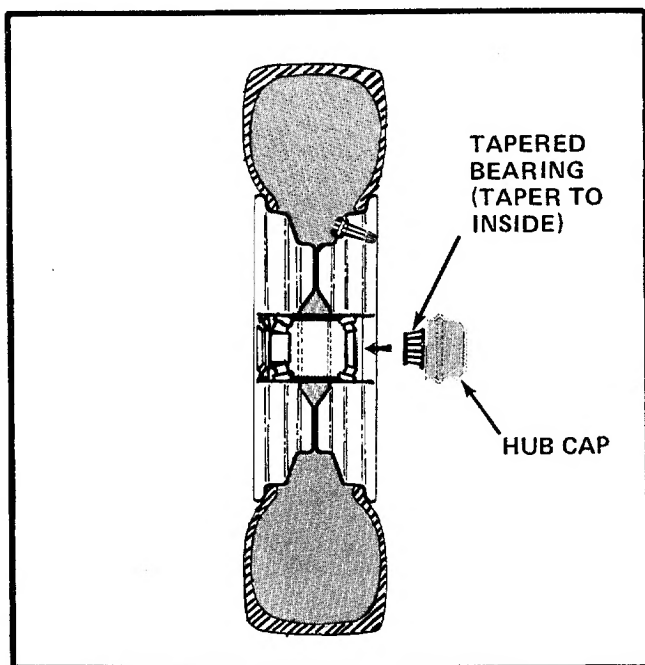

FIGURE 2. (CUT-A-WAY VIEW)
2. Place one spacer (A) on axle, then one wheel and tapered roller bearing (B). See figures 2 and 3.